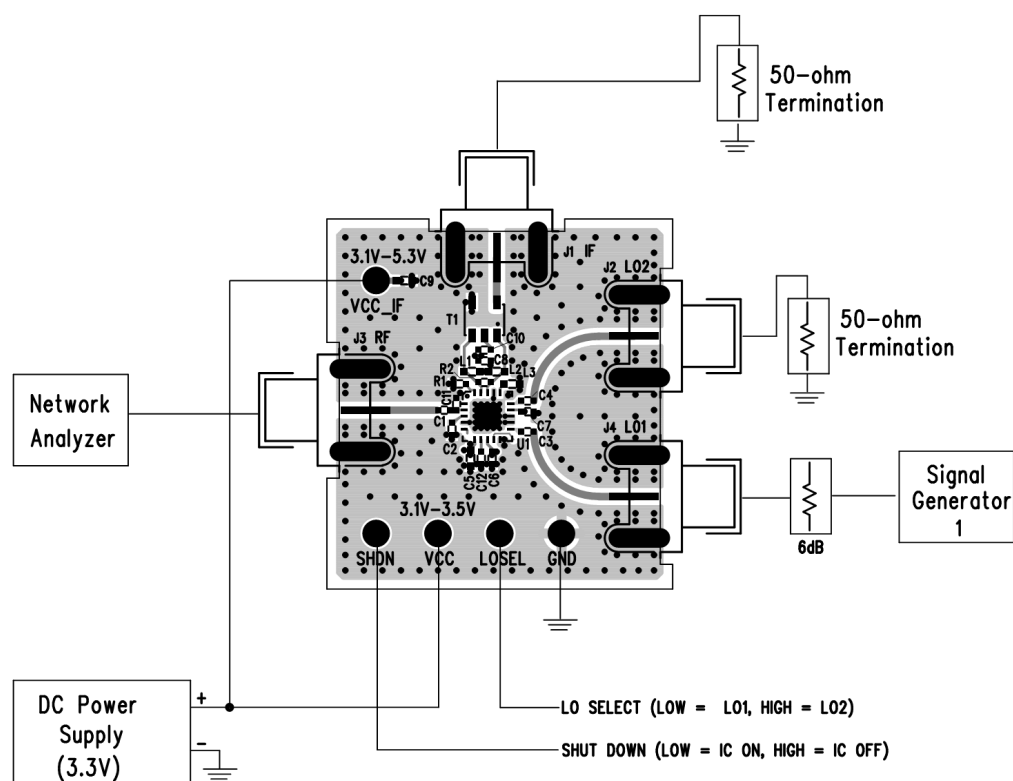
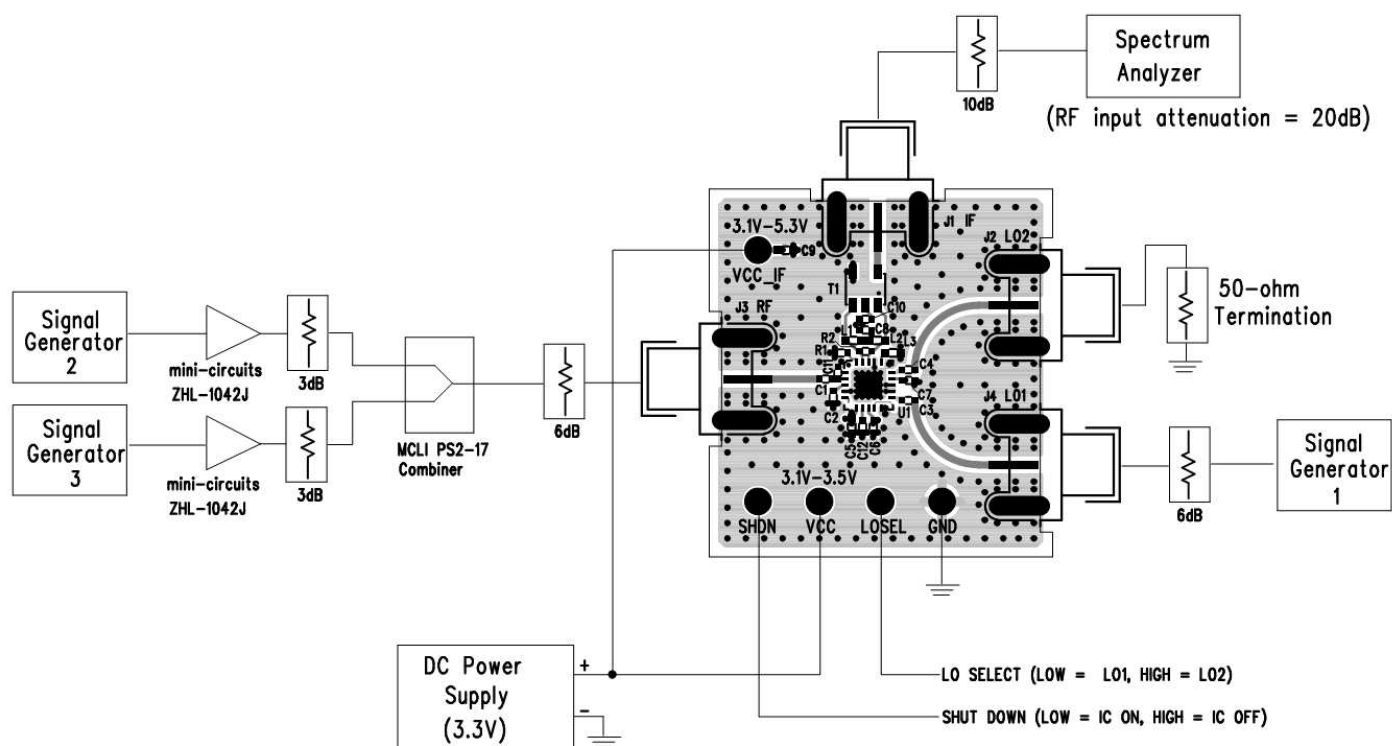
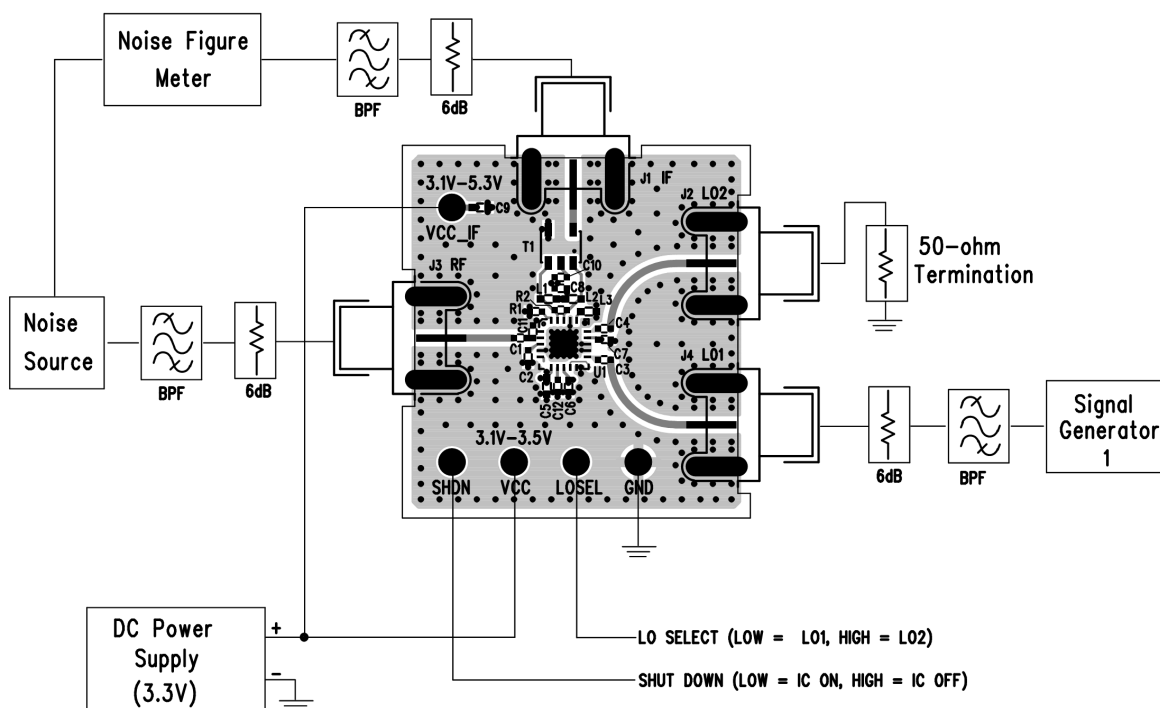

Figure 5. Proper Equipment Setup for Return Loss Measurements
Figure 6. Proper Equipment Setup for RF Performance Measurements
Figure 7. Proper Equipment Setup for Noise Figure Measurement
The LTC5540 is a high dynamic range downconverting mixer IC with very high input 3rd order intercept. Accuracy of its performance measurement is highly dependent on equipment setup and measurement technique. The recommended measurement setups are presented in Figure 5, Figure 6, and Figure 7. The following precautions should be observed:
The LTC5540 consists of a high linearity passive double-balanced mixer core and IF buffer amplifier. Due to the bi-directional nature of all passive mixers, LO \pm IF mixing product is always present at the RF input, typically at a level of 12dB below the RF input signal. If the LO \pm IF "Pseudo-Image Spur" is not properly terminated, it may interfere with the source signals, and can degrade the measured linearity and noise figure significantly. To avoid interference from the LO \pm IF "Pseudo-Image Spur", terminate the RF input port with an isolator, diplexer, or attenuator. In the recommended measurement setups presented in Figure 6 and Figure 7, the 6dB attenuator pad at the demonstration circuit's RF input serves this purpose.
Demonstration circuit 1431A-A is easy to set up to evaluate the performance of the LTC5540. Refer to Figure 5, Figure 6, and Figure 7 for proper equipment connections and follow the procedure below:
3. Connect all test equipment as shown in Figure 5 with the signal generator and the DC power supply turned off.
1. Connect all test equipment as shown in Figure 6 with the signal generators and the DC power supply turned off.
2. Connect all test equipment as shown in Figure 7 with the signal generator and the DC power supply turned off.